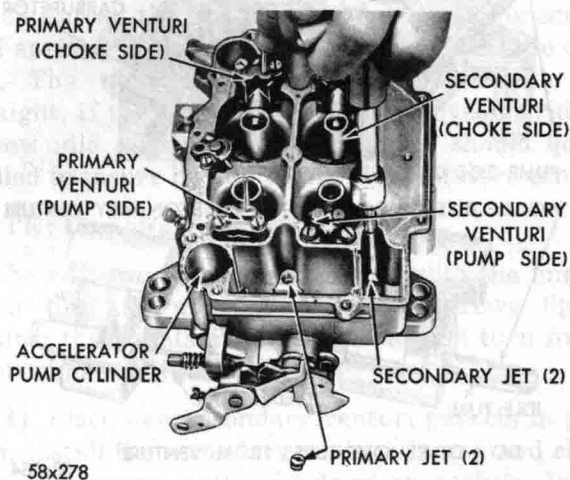

Fig. 60—Removing or Installing Main Metering Jets
(2) Using Tool T109-58, remove the main metering jets (primary side), as shown in Figure 60.
(3) Again using Tool T109-58, remove the main metering jets (secondary side), as shown in Figure 60.
(6) Install the primary and secondary main metering jets, using Tool T109-58. (See Fig. 60.) Tighten jets securely.